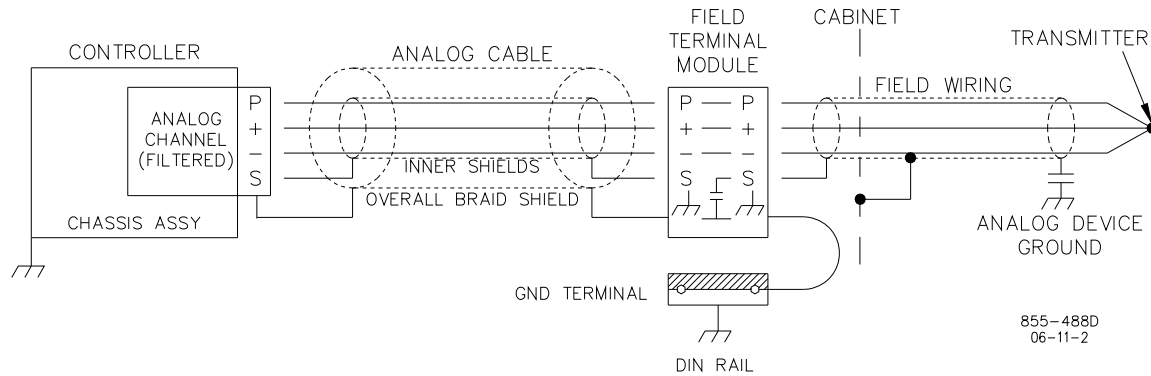

Figure 15-8—Discrete I/O Cable Grounding Diagram Example
- Ground the module to FTM cable shield, within 152 mm (6 inches) of I/O module (see Figure 15-8)